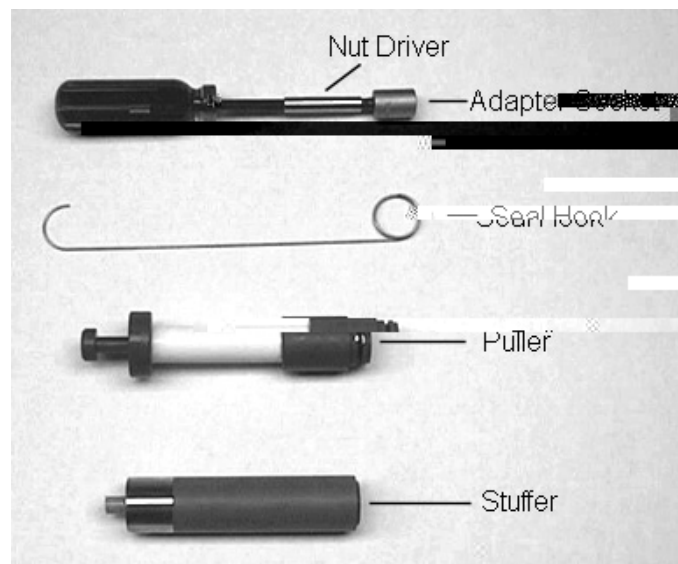

FIGURE 5
11. Turn the injector clockwise until it is tight. (See Figure 5). Turn the injector clockwise until it is tight. Turn the injector clockwise until it is tight.
12. Turn the injector clockwise until it is tight. (See Figure 5). Turn the injector clockwise until it is tight. Turn the injector clockwise until it is tight.
13. Turn the injector clockwise until it is tight. (See Figure 5). Turn the injector clockwise until it is tight. Turn the injector clockwise until it is tight.
14. Turn the injector clockwise until it is tight. (See Figure 5). Turn the injector clockwise until it is tight. Turn the injector clockwise until it is tight.